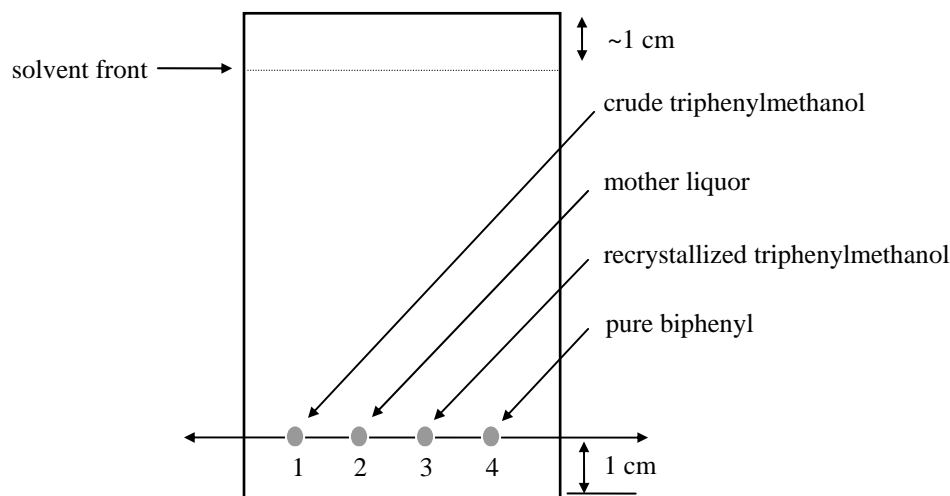

Figure 16.6. Thin-layer chromatography plate
3. Spot the TLC plate with samples of the four solutions as shown in Figure 16.6.